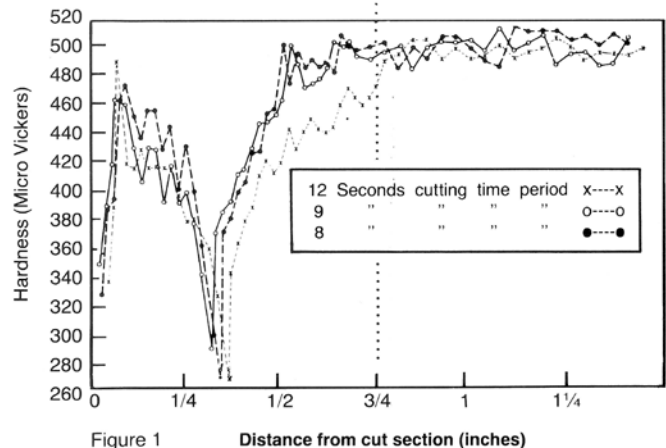

Figure 1 Distance from cut section (inches)
- a. Years of experience and lab tests have shown that heat from cutting torch greatly affects strand hardness. (Figure 1)